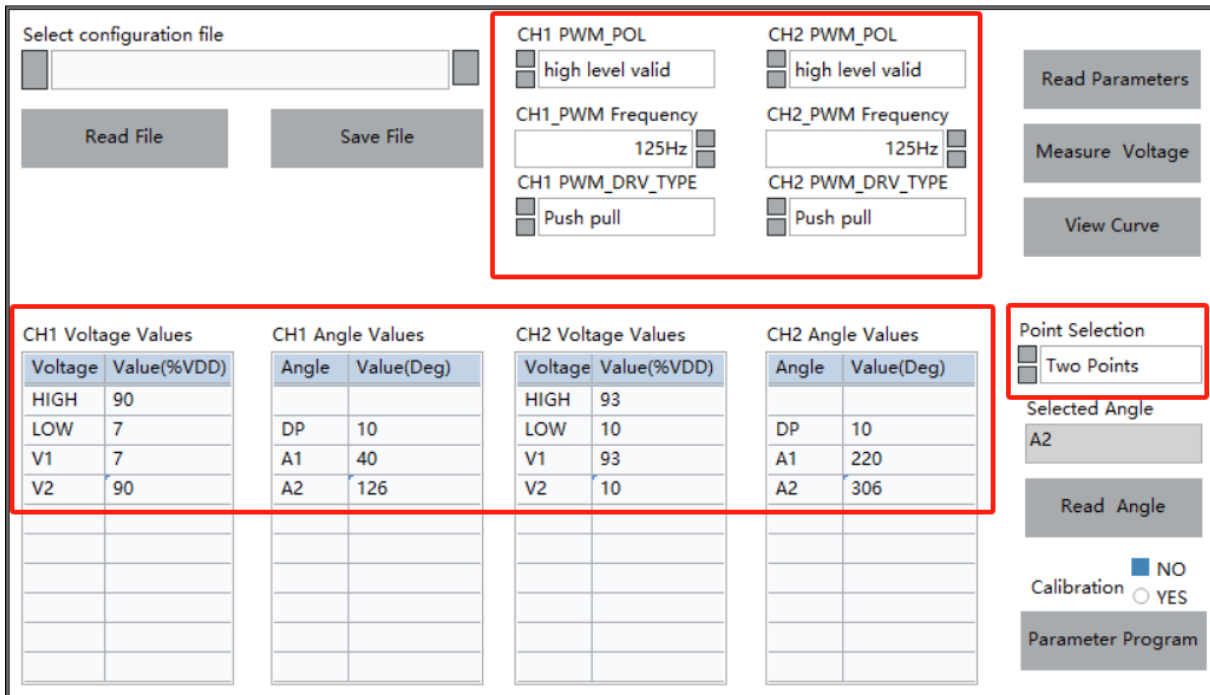

Figure 5.5.10 Two-point programming and fill in fixed parameters
- Fill in the above parameters in the corresponding parameter column "HIGH", "LOW", "V1", "V2", "DP", "PWM\_POL", "PWM Frequency", and "PWM\_DRV\_TYPE" are fixed parameters that remain unchanged during repeated programming. The 'A1' and 'A2' parameters are manually controlled and represent the current actual angle value of the chip (Figure 5.5.10).